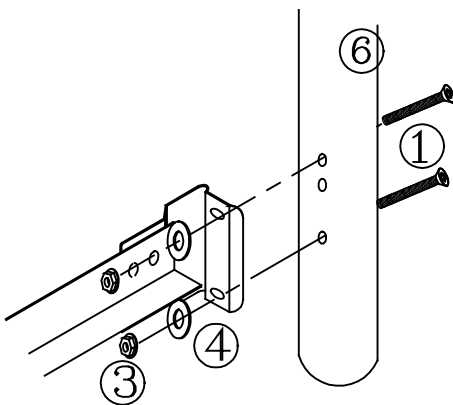

FIGURE 2
- Place 2 screws (1) through holes located in leg (6). (See Figure 2)
- Place a flat washer (4) first and then a nut (3) on each screw. Hand-tighten, DO NOT TIGHTEN screws all the way.